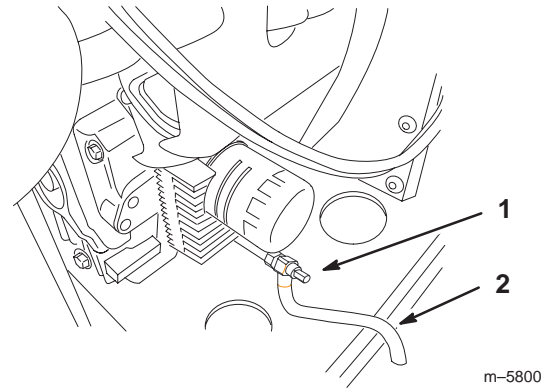

Figure 37
3. Place hose onto oil drain valve to direct oil into drain pan (Fig. 37).
4. Place a pan below the drain hose. Rotate oil drain valve to allow oil to drain (Fig. 37).
6. Remove the drain hose. Place hose in a notable place for future use (Fig. 37).